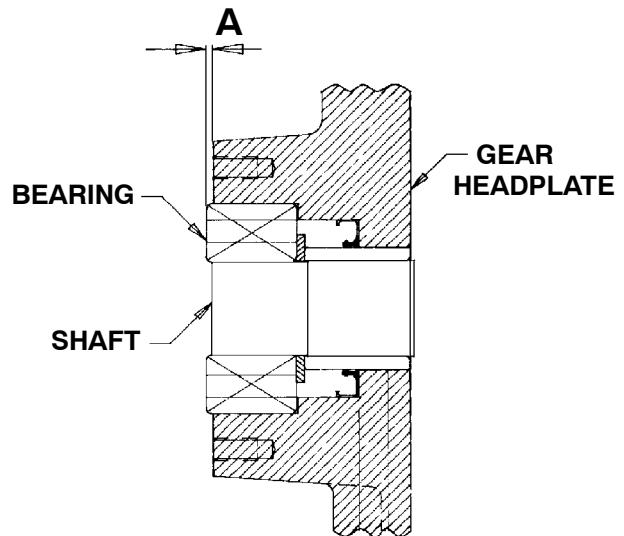

FIGURE 22
- A. With impellers tight against the gear headplate, measure the distance (A) from the bearing outer race to the gear headplate using a depth micrometer (see FIGURE 22, page 21).
- B. Subtract  $1/3$  of the total end clearance from the value measured at point A. This value is the amount of shim (13) that should be placed between the retainer and the headplate at point (S).